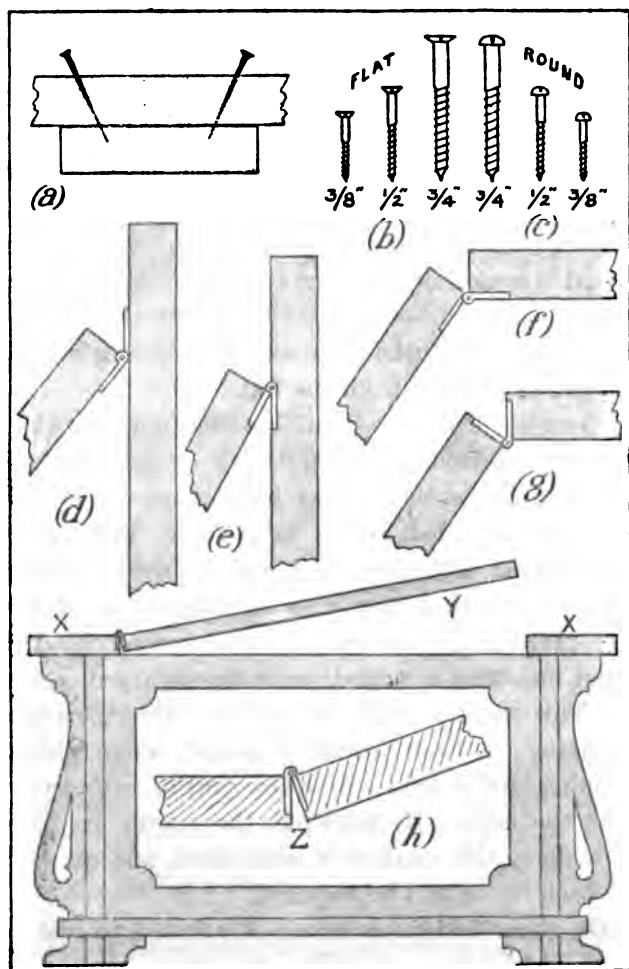

Fig. 142.—(a) Nails driven slantwise. (b) Flat-headed screws. (c) Round-headed screws. (d–g) Methods of hinging. (h) Hinging box lid. Enlarged section at Z.
Nails, Screws, and Pins.—*Nails* are never used for fixing fretwork except in cases where the nail is hidden. Incidentally, however, brass or iron wire nails, from $\frac{1}{4}$ in. to $\frac{3}{4}$ in. long, are of service. When used, it is advisable to drive them in slightly aslant (Fig. 142, *a*), in order that two may act like a wedge.
Screws for fretwork are of the finest gauge, brass ones being preferable. They are obtainable in sizes from $\frac{1}{16}$ in. upwards, but these tiny ones, unless driven with extreme care and accuracy, afford very little hold. The more useful sizes are $\frac{1}{8}$ in., $\frac{1}{4}$ in., and $\frac{3}{8}$ in. Holes must always be properly drilled for screws, and it should be seen that the hole in the upper piece of wood is sufficient to take the shank easily, and that it is countersunk for a flat-headed screw. Unless these precautions are taken thin wood will split. For hidden fixtures, flat-headed screws (Fig. 142, *b*) may be taken ;
Incidental Fixtures.—Hinges used in fretwork are small brass butts, and may be had from $\frac{1}{4}$ in. upwards. Ornamental hinges for boxes, etc., may also be obtained from dealers in fretwork materials. Butt hinges are fixed as in cabinet work, the chief difference being that the hinge is smaller and the wood thinner. Indeed, the thinness of the wood makes the fixing of fretwork hinges troublesome. In some cases the screw has to be driven right through the wood and its point afterwards filed off. At Fig. 142, *d*, is shown an easy (but not very workmanlike) method of fixing a hinge for a photo-
When fretwork boxes are joined at the corners by halved joints, the lid is sometimes designed to lift off. Frequently, however, it is planned as section Fig. 142, *h*, the outer border (X) being fixed to the sides, while the centre (Y) is hinged. A flat ornamental hinge is the easiest to fix here; if a butt be used, it is hinged as at Z.